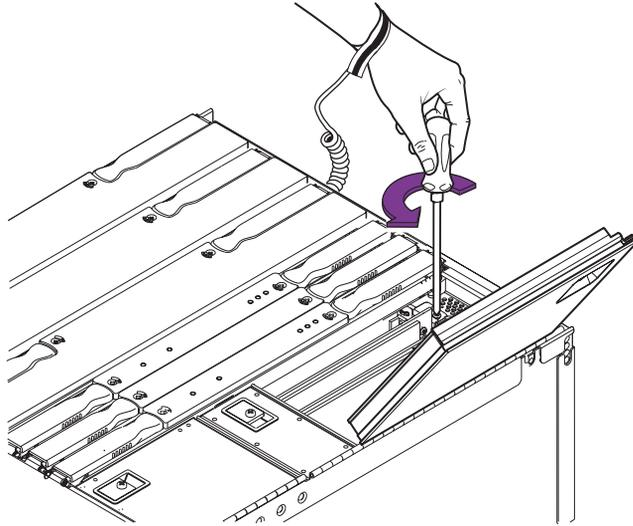
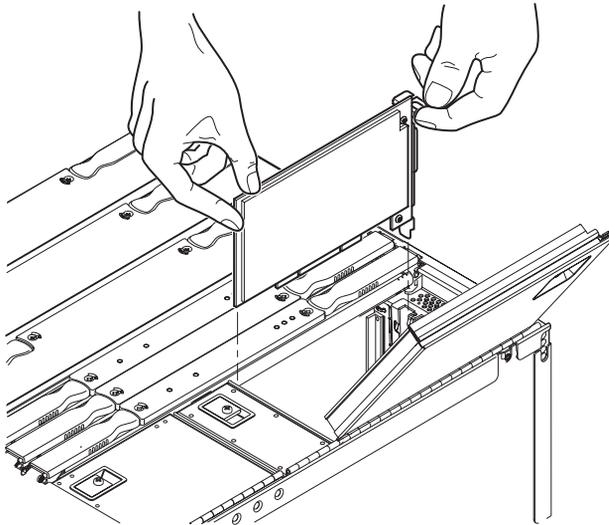

FIGURE 8-8 Removing the I/O Card Retaining Screw
FIGURE 8-9 Removing a I/O Card
9. Remove the retaining screw. Gently pull the card upwards until it is free of the IB_SSC receptacle (FIGURE 8-8 and FIGURE 8-9).